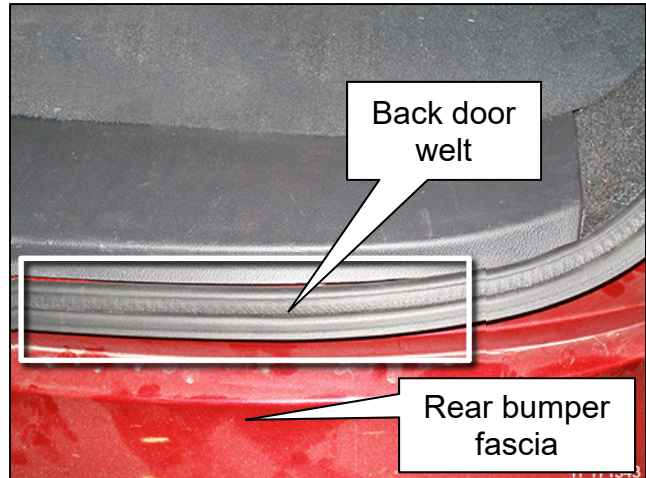

Figure 1
2. Remove the back door welt from the area shown in Figure 1.